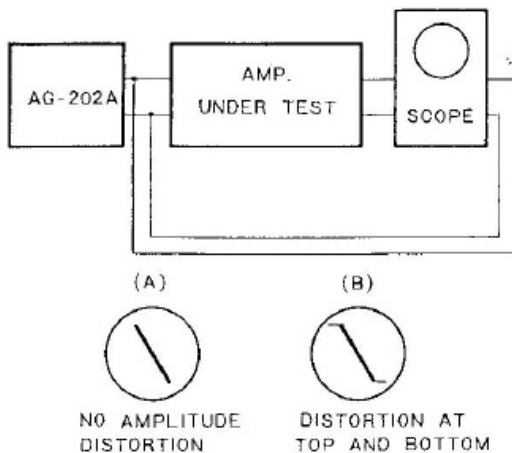

Fig. 7 Phase Characteristic Measurement
To view the above-mentioned phase shift, connect the AG-202A and an oscilloscope to the amplifier under test as shown in Fig. 7.
If there is no phase shift about the output signal of amplifier under the above condition, the oscilloscope will represent as the waveform a straight line similar to that shown in Fig. 7, (A). If the straight line displayed is curved at its top and bottom sections as shown in Fig. 7, (B), it indicates that the output signal of amplifier is suffering from an amplitude distortion. In this case, therefore, reduce the output level of AG-202A a little.